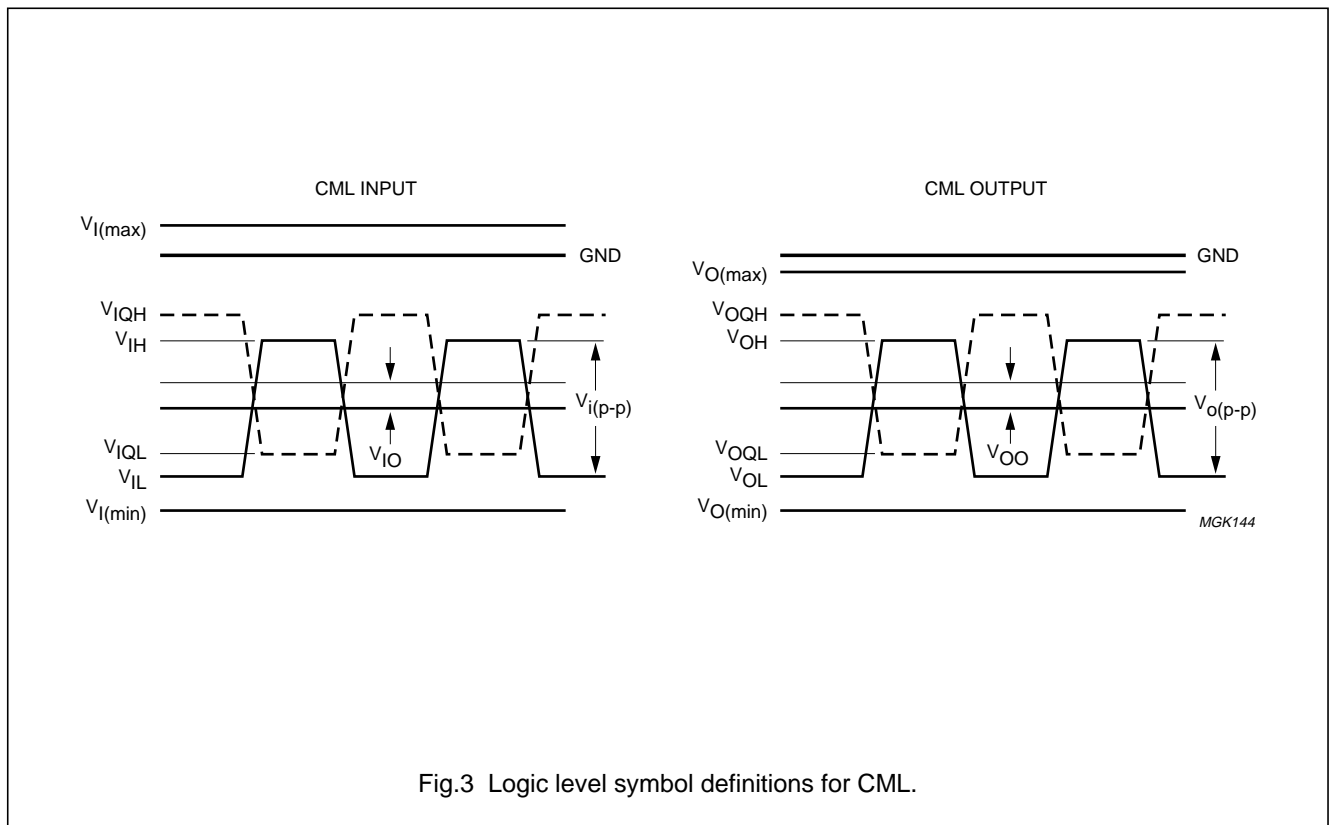

Fig.3 Logic level symbol definitions for CML.
4. See Fig.3 for symbol definitions.